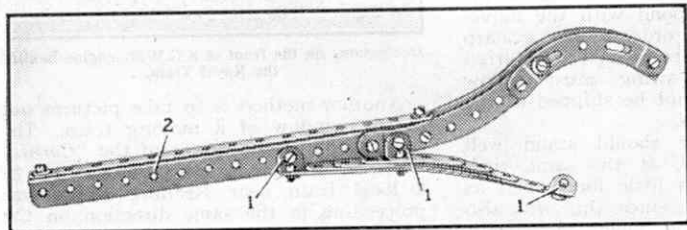

Fig. 1. A suspension spring suitable for a model car.
P. Ashbridge, Nottingham, is interested in model motor cars, and asks for details of suitable spring arrangements for the back axle. There are several different types of springs for this purpose and I reproduce an illustration of one variety that I suggest for his use. This is the cantilever type shown in Fig. 1, and while it is intended primarily for supporting the rear axle of a vehicle, it is sometimes used for the front axles also. The leaf spring is built up from 2", 2½", 3½", 4½"